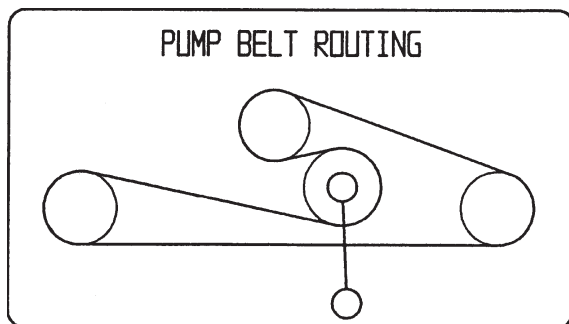

Figure 54
1. Pull spring loaded idler down and remove traction belt from the engine and hydro pump pulleys (Fig. 54). Remove belt between pulleys.
2. Install new belt around engine and hydro pump pulleys (Fig. 54).
3. Pull spring loaded idler down and align below traction belt. Release pressure on spring loaded idler (Fig. 54).